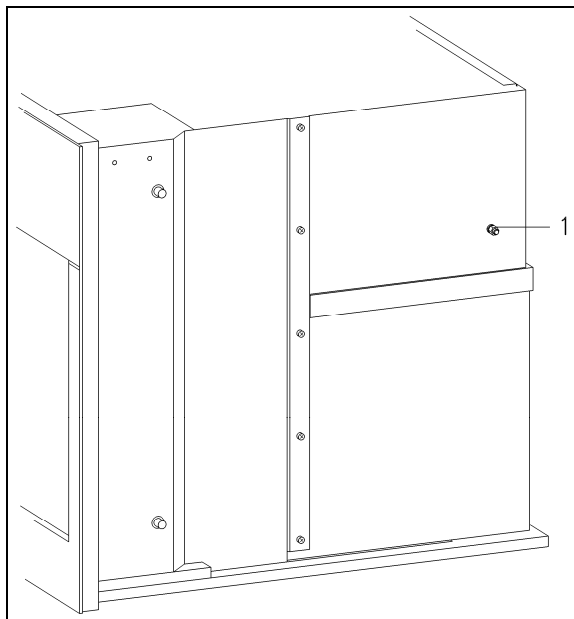

Figure 5-2: Interference Suppression Filter Mounting Location
2. Remove the nut securing the filter (Figure 5-2, Item 1).